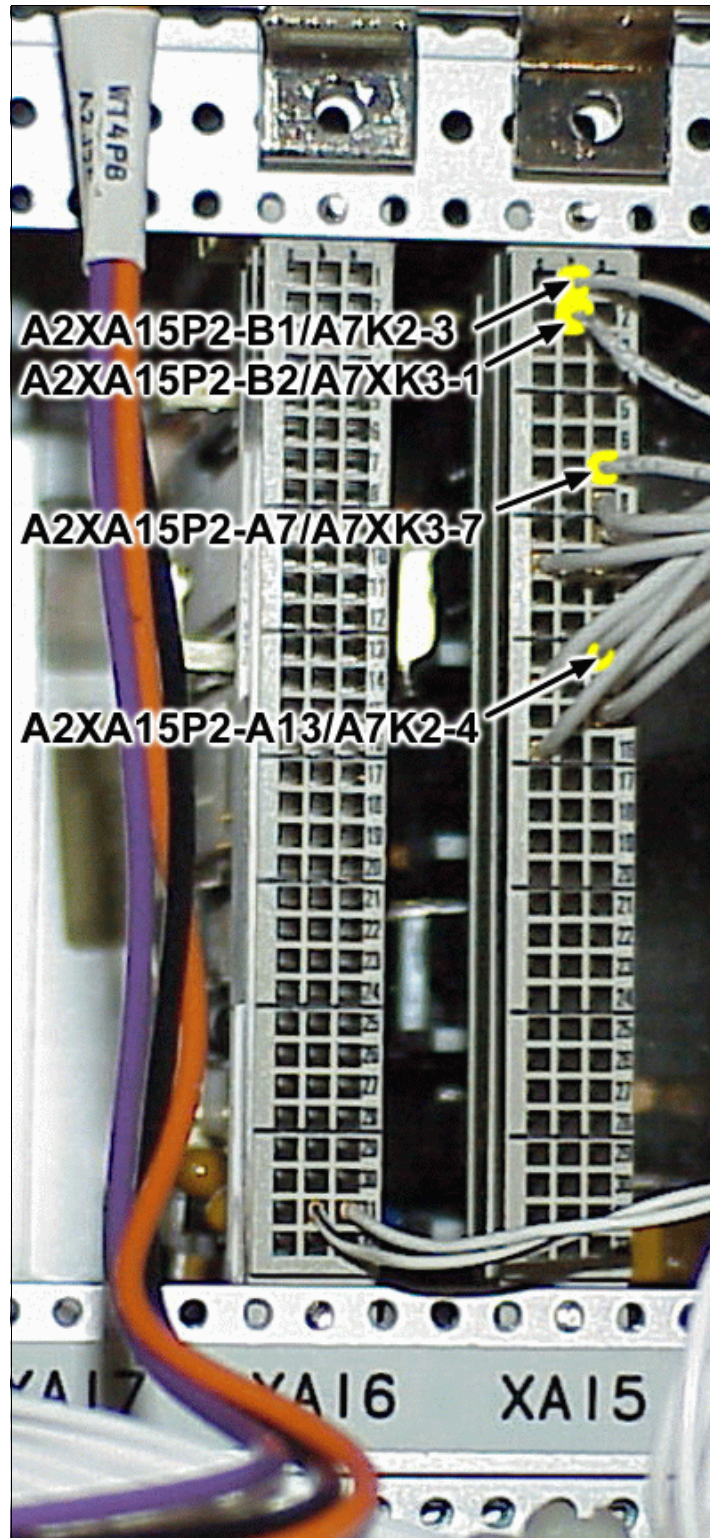

Figure 6 **1A2XA15-P2**
27. At the rear of the ACU cabinet, locate the lower portion (P2) of the digital I/O board (1A2XA15). Insert the four thin, white wires into their respective slots in the P2 connector terminal. Refer to figure 6.